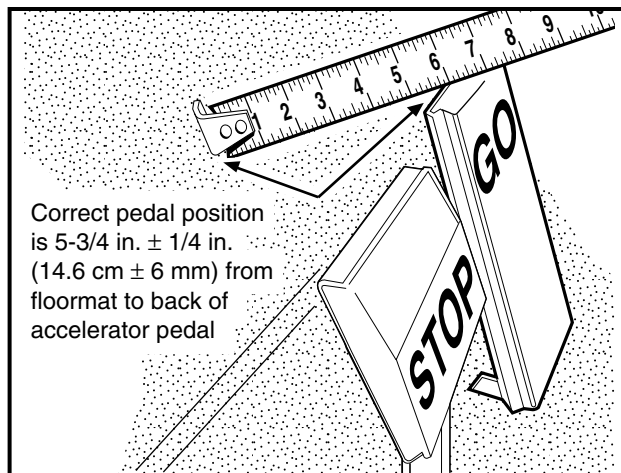
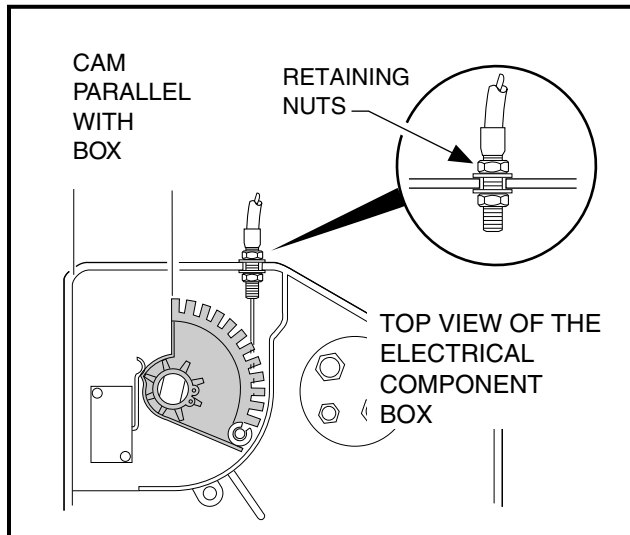
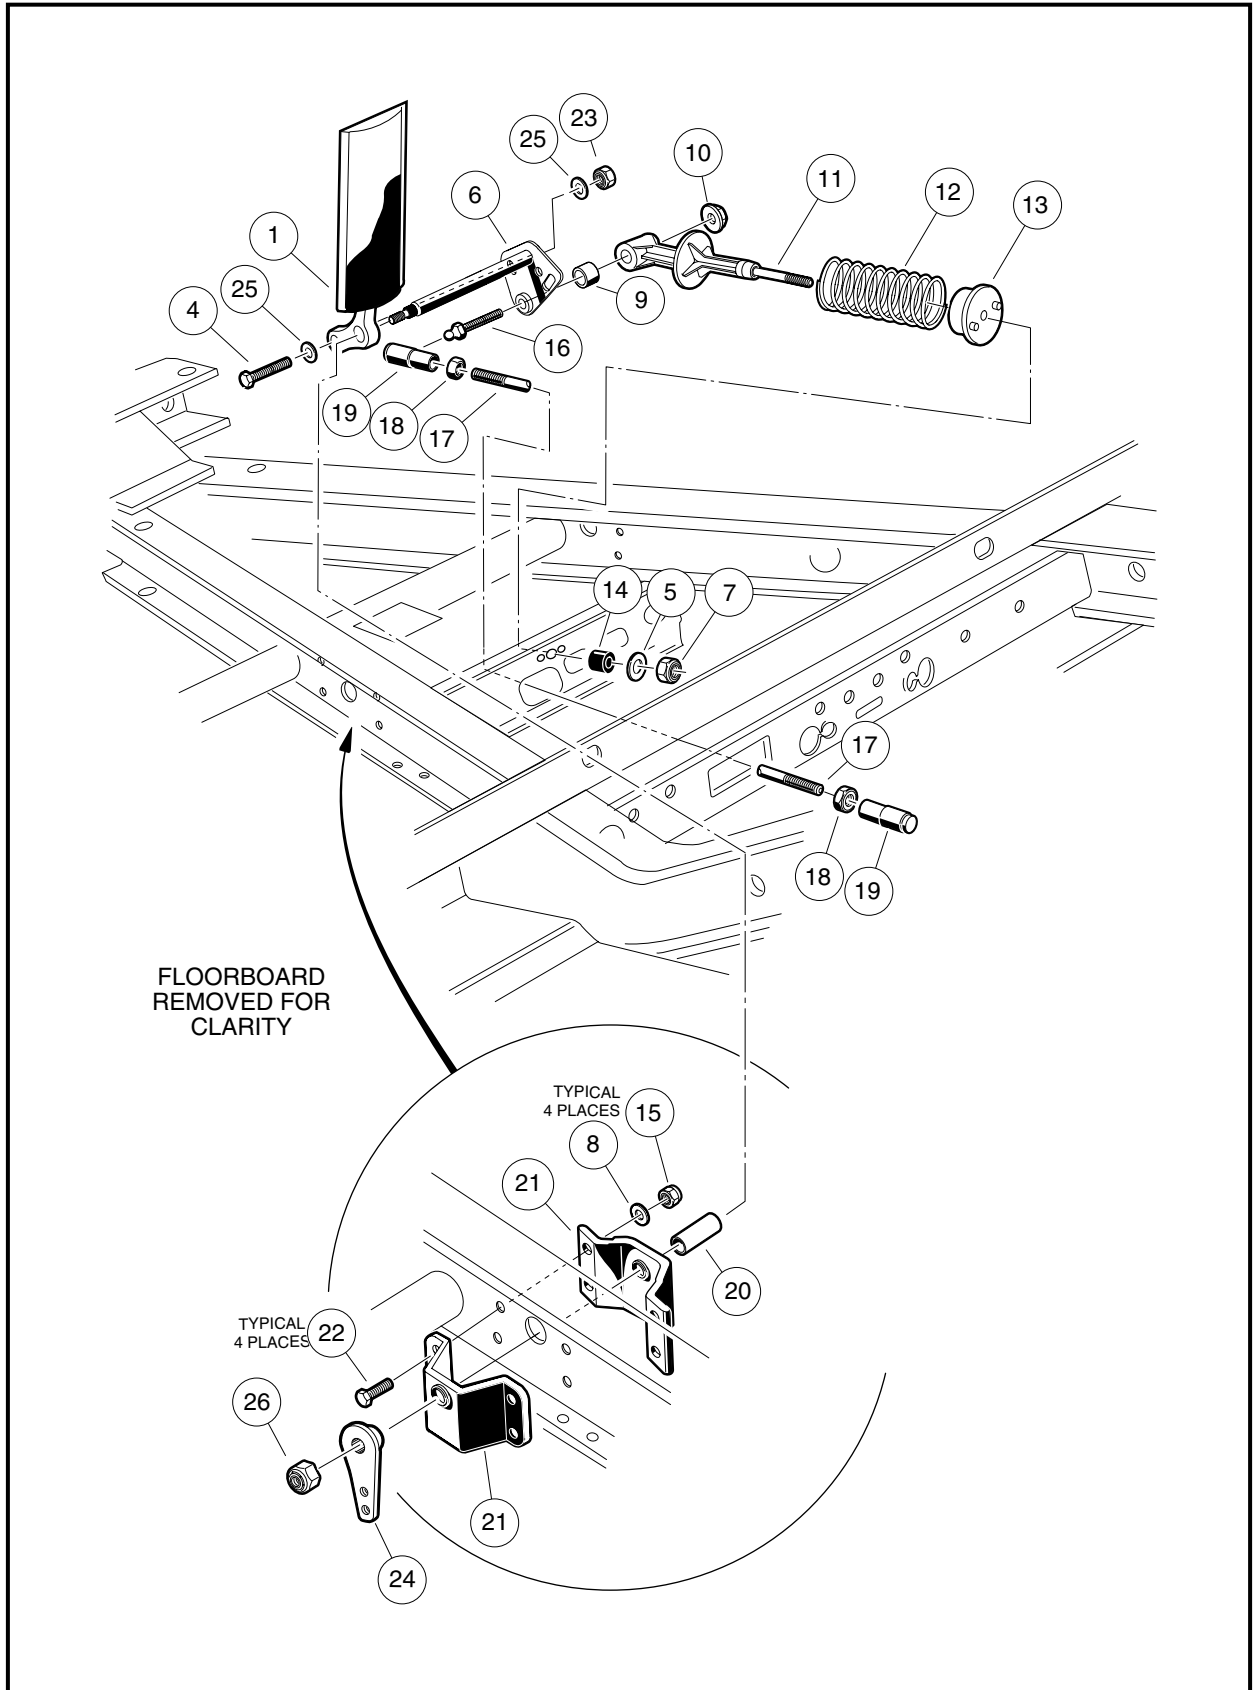

Figure 5-7 Accelerator Pedal Height
Figure 5-10 Accelerator Cable and Electrical Box
Figure 5-11 Accelerator Pedal Assembly
4. Using a 9/16-inch socket and 9/16-inch wrench, remove the nut (23), two washers (25), and bolt (4) securing the accelerator pedal (1) to the pivot rod (6) (**Figure 5-11, Page 5-10**).
5. Disconnect the accelerator rod assembly (17, 18 and 19) (**Figure 5-11, Page 5-10**) at the front and rear ball studs and remove it from the vehicle.
6. Remove the nut (10) and ball stud (16) from the accelerator pivot rod (6) and spring retainer (11) assembly.
7. Slide the spring retainer (11) off of the accelerator pivot rod (**Figure 5-11, Page 5-10**).
8. Inspect the pivot support bearing (9), inside the spring retainer, for wear and replace if necessary.
9. Remove lock nut (26) from the accelerator pivot shaft.
10. Move the brake pedal slightly and then slide the spacer (24) toward end of accelerator pivot rod, releasing the splined fit between the two. Rotate the spacer (24) and remove from the pivot rod (6) (**Figure 5-11, Page 5-10**).
11. Loosen, but do not remove, the four bolts (22) and lock nuts (15) to make removal of the pivot rod easier.
12. Slide the pivot rod (6) from the accelerator pivot rod supports (21), nylon spacer (20), and accelerator (1). Remove both the pivot rod (6) and the accelerator pedal (1) from the vehicle.
1. If the accelerator pivot rod supports were replaced, position the supports (21) on the vehicle frame and loosely install the four bolts (22), flat washers (8), and lock nuts (15) and finger-tighten (**Figure 5-11, Page 5-10**).
2. With the assistance of an additional person, position accelerator pedal (1) through the floorboard and slide the accelerator pivot rod (6) through the upper hole in pedal through the nylon spacer (20), and through the two pivot rod supports (21).
3. Tighten the four bolts (22) (**Figure 5-11, Page 5-10**) attaching the pivot rod supports to the frame to 75 in-lb (8.5 N·m).
4. Install the spacer (24), aligning the splined area in both parts, and attach the nylon lock nut (26). Tighten the nut to 18 ft-lb (24.5 N·m).
5. Insert bolt (4) through a washer (25) and through the lower hole in the pedal, then through the adjacent slotted hole in the pivot rod (6). Attach the remaining washer (25) and nut (23). Finger-tighten nut. **See Accelerator Pedal Adjustment on page 5-7.**
6. Insert pivot support bearing (9) into spring retainer (11) and onto the boss of the pivot rod plate.
7. Install the ball stud bolt (16) through the pivot rod (6) and pivot support bearing (9). Secure these parts with nut (10) (**Figure 5-11, Page 5-10**). Tighten nut to 50 in-lb (5.5 N·m).
8. Install the accelerator rod assembly (17, 18 and 19) (**Figure 5-11, Page 5-10**).
1. Measure the distance from the top of the accelerator pedal to the floorboard. If the distance is within the range of 5-3/4 inches \pm 1/4 inch (14.6 cm \pm 6mm) (**Figure 5-7, Page 5-8**), adjusting the accelerator pedal is not necessary. If adjustment is not necessary, check to make sure the nylon lock nut (23) is tightened to 26 ft-lb (35.3 N-m) (**Figure 5-11, Page 5-10**) and proceed to step 7.1. If adjustment is necessary, proceed to step 2.
- 7.1. Place the end of the tape measure against the floormat and adjust the pedal so the distance from the floormat to the back of the accelerator pedal is 5-3/4 inches \pm 1/4 inch (14.6 cm \pm 6mm) (**Figure 5-7, Page 5-8**).
- 8.1. Remove the electrical box screw and cover (**Figure 5-10, Page 5-9**). See the preceding **WARNING**.
- 8.2. Loosen the jam nuts (18) and disconnect the accelerator rod (17) at the accelerator pedal (**Figure 5-11, Page 5-10**). Adjust the length of the rod so that the indicated cam edge is parallel with the edge of the electrical component box as shown (**Figure 5-10, Page 5-9**). See following **CAUTION**.
8.3. Reconnect the accelerator rod at the accelerator pedal (**Figure 5-11, Page 5-10**).